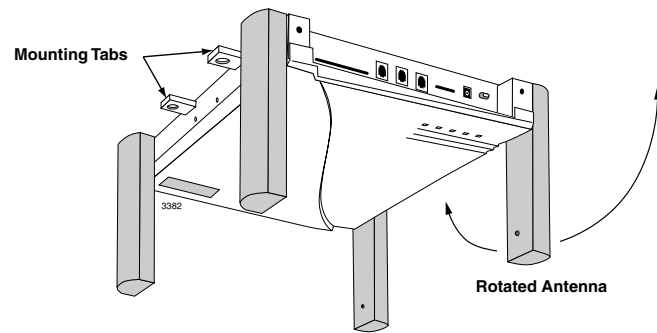

Figure 13 Mounting Tabs Location on the Base Station
1. Rotate Base Station antennas to expose the mounting tabs (see Figure 13).